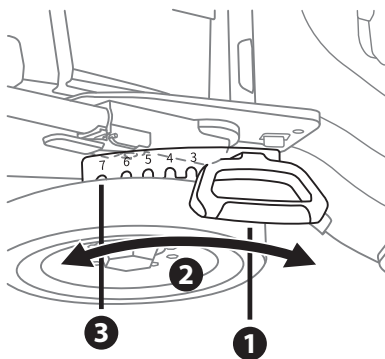

Fig. 6
1. To adjust the height, pull the height adjustment lever toward the wheel (1, Fig. 6).
2. Move the lever up or down to the desired position (2, Fig. 6), then release the lever to lock the wheel in place (3, Fig. 6).